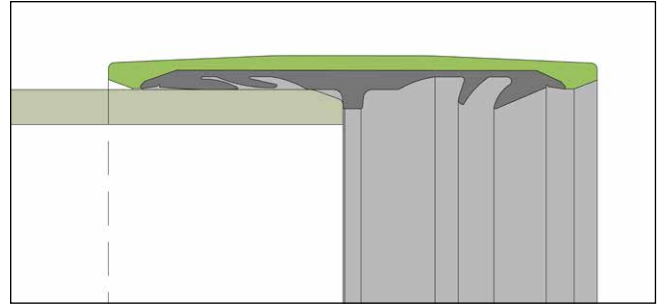

Fig. 25: FWC coupling
5.1.4. FILAMENT WOUND COUPLING / FWC (FIG. 25)